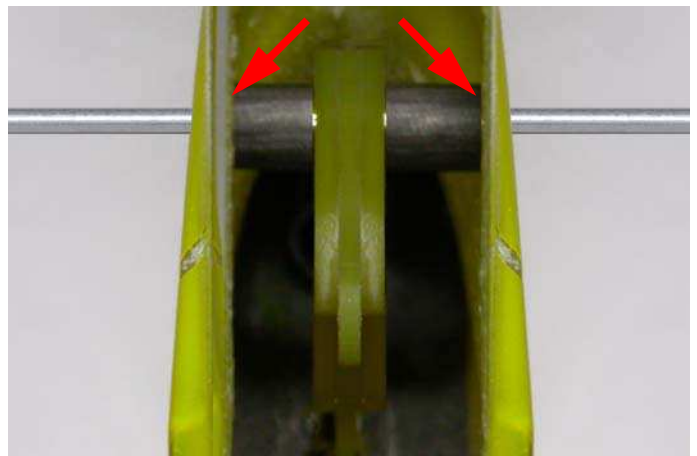

Fig.25: Points to glue.
- spread some epoxy in the points shown in figure 25 (but, be careful: don't glue the bellcrank);